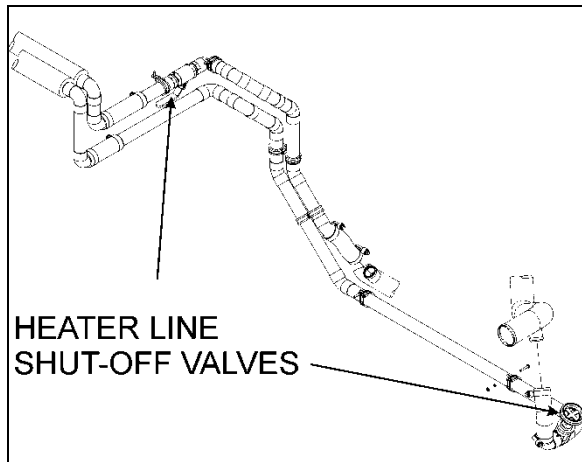

FIGURE 52: HEATER LINE SHUT-OFF VALVES
3. Close the hot water lines shut-off valves located next the engine on street side (see Figure 2 & Figure 52).
The valves are located in the engine compartment. One is on the L.H. side of compartment in front of the radiator and the other valve is located under the radiator fan gearbox (Figure 52).